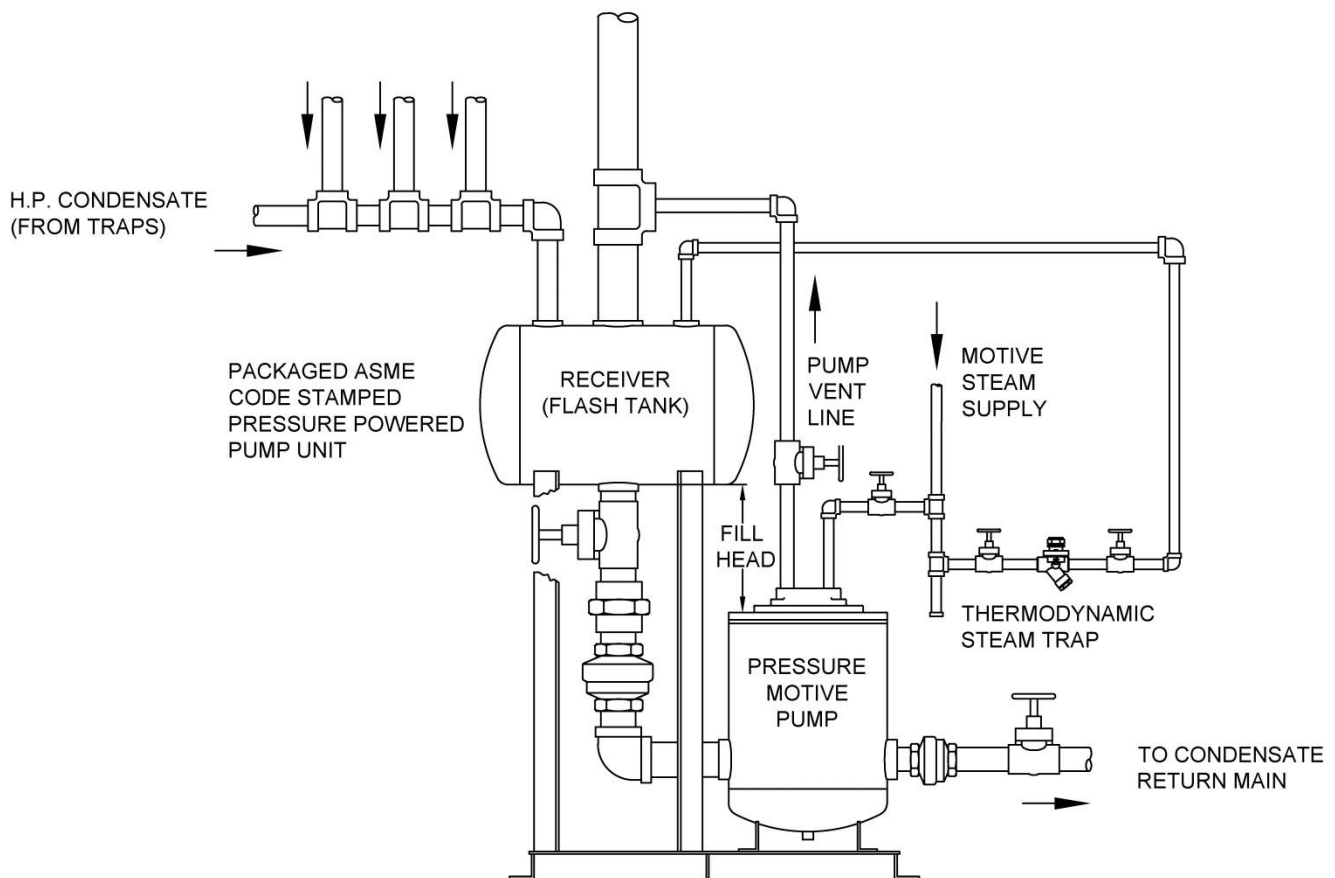

Figure 7: Open Loop Pump System
1. The pump must be installed standing in the vertical position and located below the equipment to be drained. It is important that the preferred operating filling head be established from the top of the pump body to the underside of a receiver. The standard operating fill head is 12". Fill head is determined from bottom of drain point to top of pump. See 'Fill Head' in Figure 7. Pump capacity can be increased by increasing the fill head. In instances where space is limited a vertical receiver may be used.